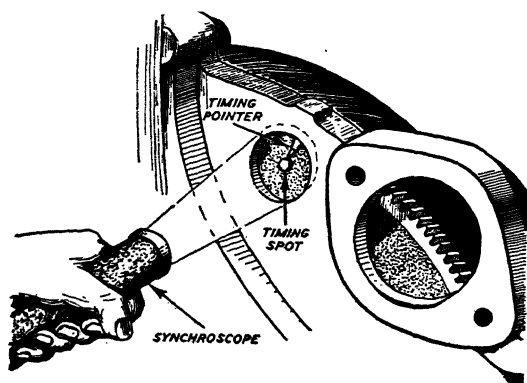

Fig. 12. Timing Ignition with the Aid of the Synchroscope
**Timing Ignition with the Synchroscope.** The synchroscope is a neon light device designed to be operated by means of the ignition current. The method of using this device is illustrated in Fig. 12. The contact breaker points are cleaned and adjusted to the specified gap, after which the lead of the synchroscope is connected to the spark plug wire cable of cylinder No. 1. Car manufacturers making use of this type of ignition timing set a steel ball into the flywheel metal. This ball is in a position designed to line up with the pointer on the flywheel housing. Spark timing is correct when the ball lines exactly with the pointer. By using the synchroscope it is possible for the mechanic to secure this alignment of the ball with the pointer while the engine is running. The flash of the neon light by means of the spark from cylinder No. 1 serves to make visible to the operator the exact position of the ball at the time the spark flashes. The